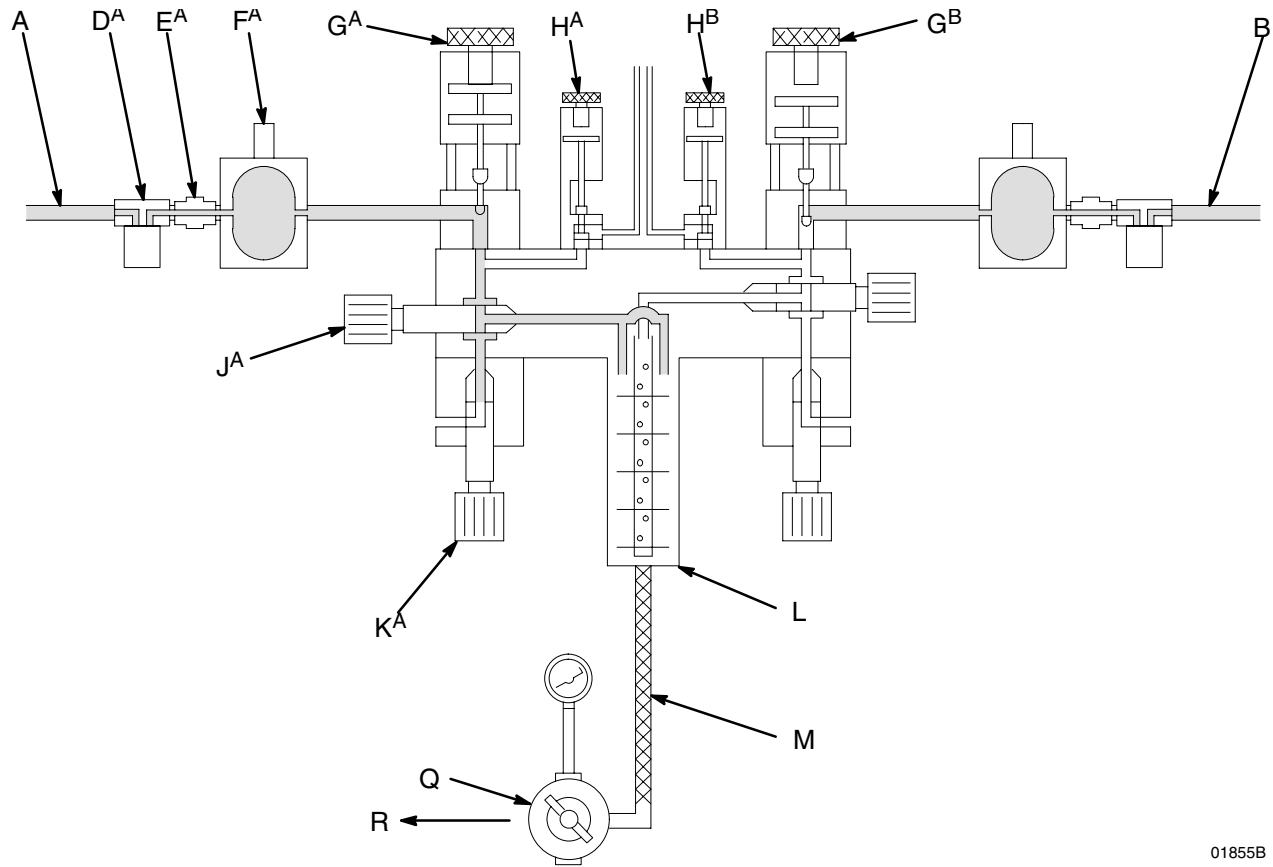

Fig. 1
- First, the Component A (resin) dispense valve opens, and the fluid begins to flow into the integrator chamber. When the correct quantity has been dispensed (based on the calculated target value), the component A dispense valve closes. See Fig. 1.
KEY for Fig. 1